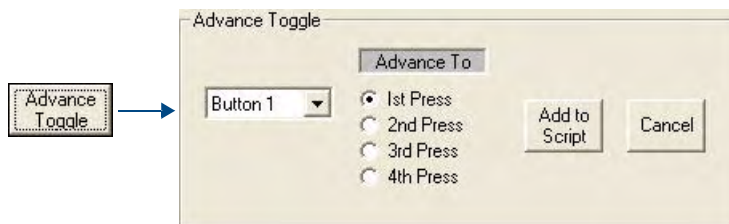

FIG. 81 Advance Toggle window
1. Click the **Advance Toggle** button in the Command Bar to open the *Advance Toggle* window (FIG. 81).